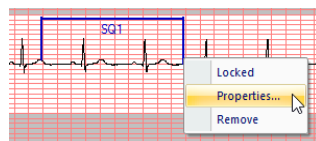

Figure 394 – Marker context menu
3. To edit the measurement properties, select the **Properties...** item in the displayed context menu (see Figure 394).